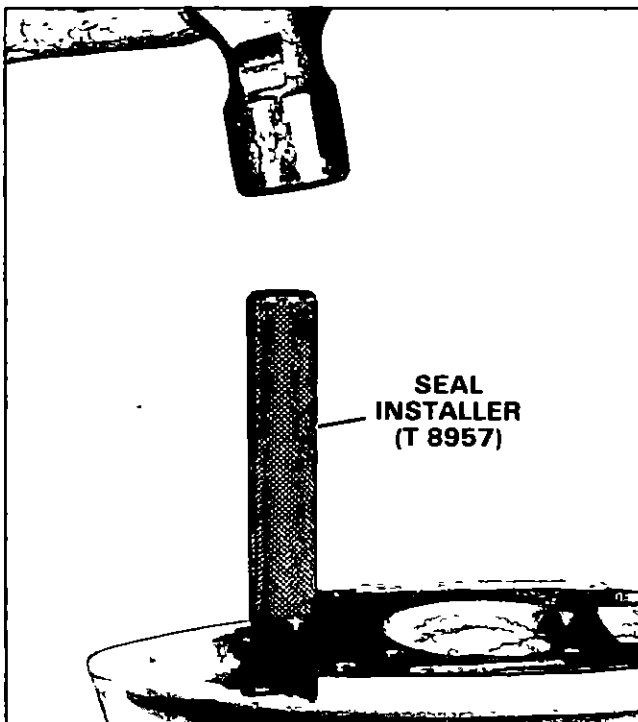

Figure 68. Installing Shift Rod Seal.
- A Install shift rod seal using Special Tool No T 8957 Install with raised bead on seal facing up Seat in bore by driving down until seal is flush to 010" (0 26 mm) depressed below cavity surface Figure 68